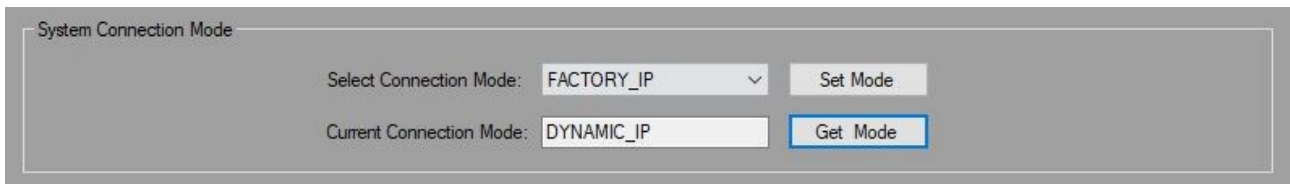
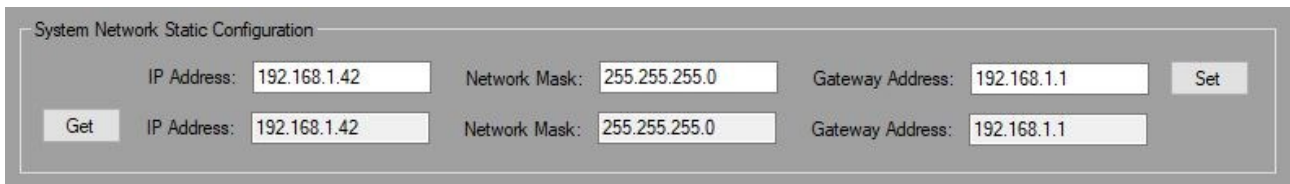

Fig.19 Connection Mode Panel
Fig.20 System Network Static Configuration Panel
Using the panel in Fig.19 it is possible to get the current *Connection Mode* of the radar (i.e. the way by which the radar configures its network board, once it exits from the *Recovery State*, as explained in 3.2). It is also possible to update such a mode.
2. **STATIC\_IP:** when exiting the *Recovery State*, the radar will configure its network board using a static IP address, configurable by the user (Fig.20).
Using the panel in Fig.20 it is possible to read and update the network static configuration of the radar, i.e. IP address, Network mask and Gateway address. This network static configuration is the one used when STATIC\_IP mode is set as *Connection Mode* for the radar.
**NOTE:** current IP address of the radar (shown in the panel of Fig.18), should not match the static IP address get from the radar in Fig.20. For example, if the currently set *Connection Mode* (Fig.19) is DYNAMIC\_IP, the current IP address of the radar is obtained by a DHCP server and hence it almost certainly does not match the statically configured IP address.